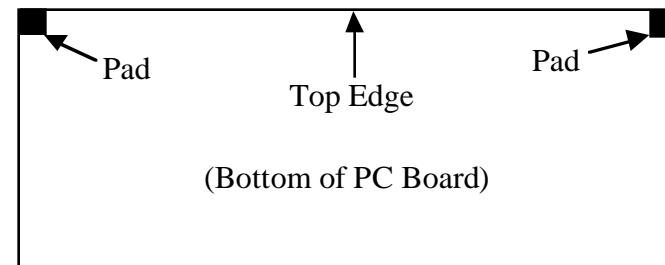

Figure 5-12
- Attach two thin, 1/4" (6.4 mm) self-adhesive rubber pads to the bottom side of the Front Panel board in the positions indicated in Figure 5-12. The pads should be placed as close as possible to the corners, but should not hang over on either edge. These pads establish the correct spacing for the Front Panel board and provide some vibration resistance.